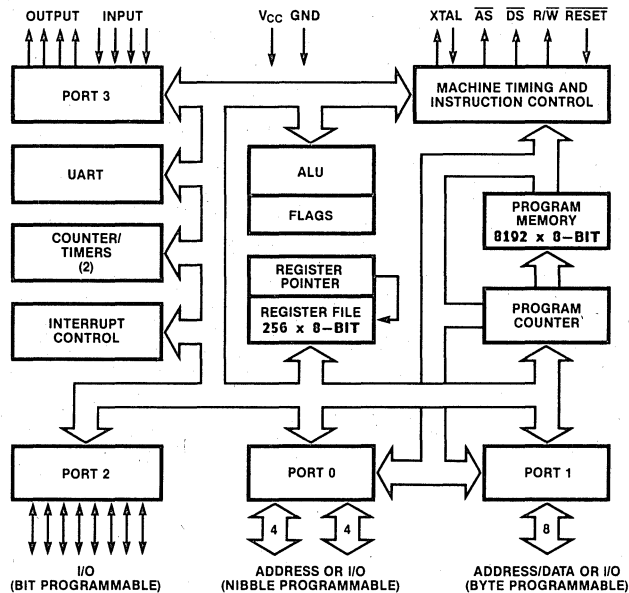

Figure 3. Functional Block Diagram
microprocessor that can address 120K bytes of external memory (Figure 3).
**P00-P07, P10-P17, P20-P27, P30-P37.** *I/O Port Lines* (input/outputs, TTL-compatible). These 32 lines are divided into four 8-bit I/O ports that can be configured under program control for I/O or external memory interface (Figure 3).